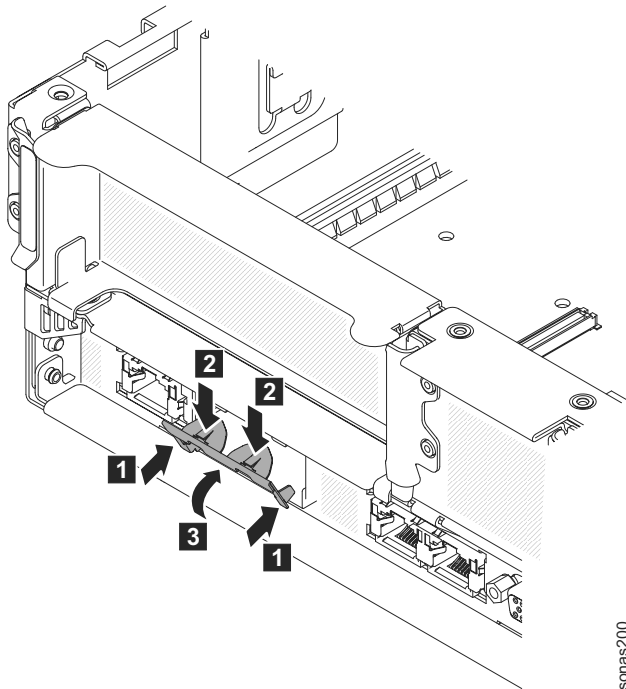

Figure 15. Location of the port openings on the chassis
7. Insert the bottom tabs of the metal clip into the port openings from outside the chassis. See Figure 15 on page 116.